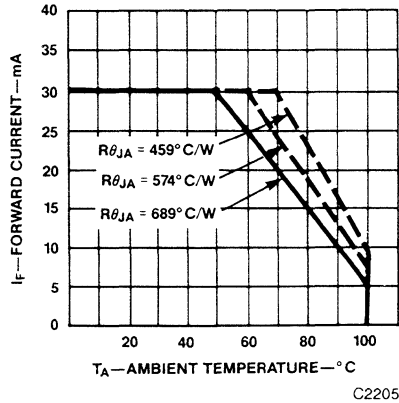

Fig. 4. Maximum Forward DC Current vs. Ambient Temperature. Derating Based on T_j MAX = 110°C
2. Derate linearly as shown in Figure 4.